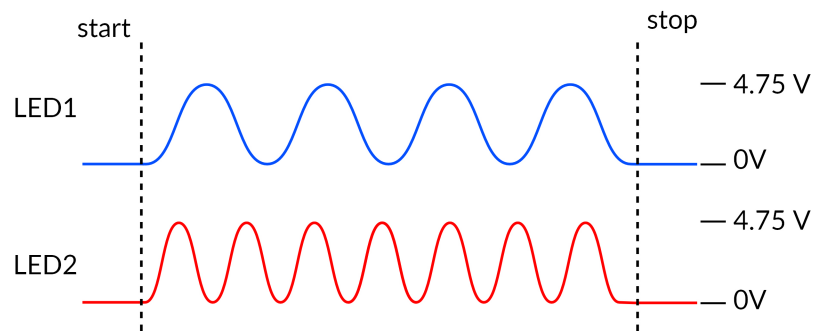

Figure 3.25: Lock-in Acquisition Timing Diagram
- When using the **Lock-In** mode, the input will only record signals at a given reference frequency, filtered by a low-pass filter. This allows the detection of multiple different signals if each is at its own reference frequency (Fig. 3.25). A more detailed procedure to use this modality is included in section 3.2.5.